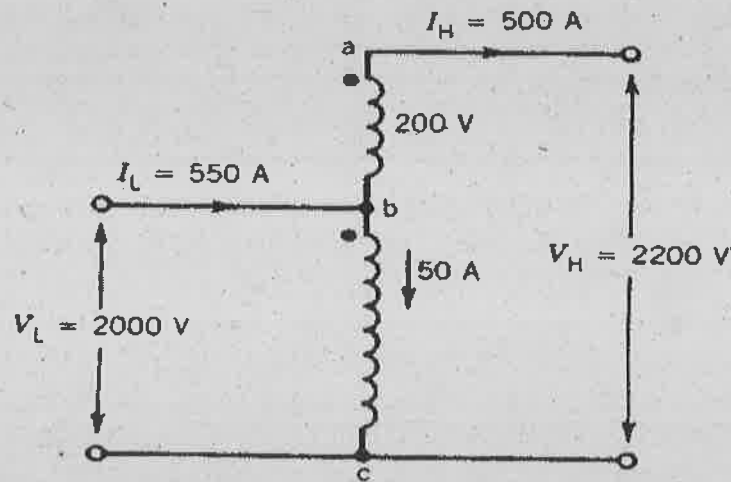

Figure 16 (b) Autotransformer
- (b) A  $1\phi$ , 100 kVA, 2000 = 200 V two-winding transformer is connected as an autotransformer as shown in Figure 16 (b) such that more than 2000 V is obtained at the secondary. The portion 'ab' is the 200 V winding, and the portion 'bc' is the 2000 V winding. Compute the kVA rating as an autotransformer.